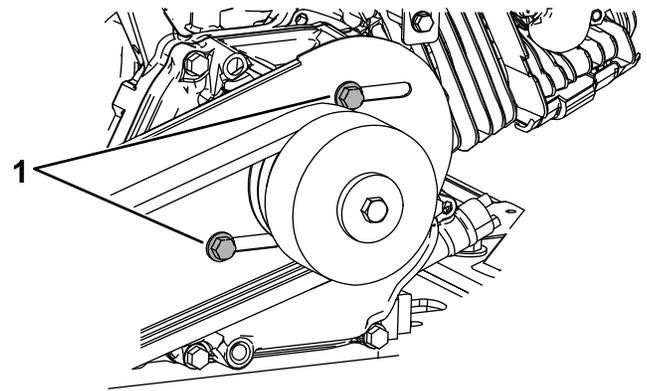
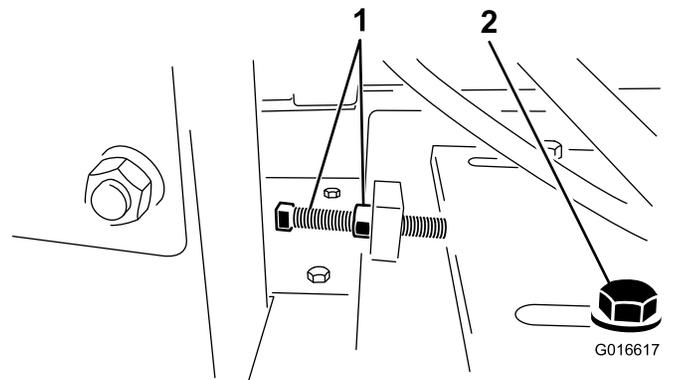

Figure 26
Figure 27
5. Loosen the 4 engine-plate mounting bolts and the 2 bolts securing the rear of the belt guard to the engine (Figure 26 and Figure 27).
6. Loosen the belt-tension bolt and jam nut. Slide the engine toward the flywheel housing to loosen the belt (Figure 27).
6. Loosen the belt tension bolt and jam nut and slide the engine toward the flywheel housing to loosen the belt (Figure 27).